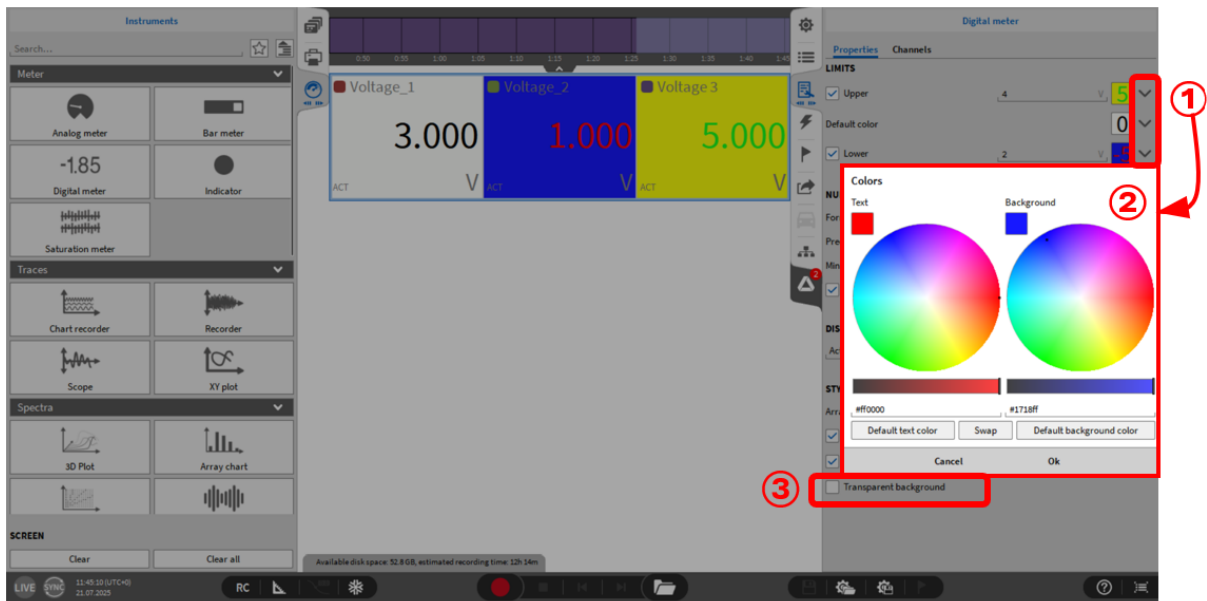

Fig. 8.10: Digital meter – Limits
- Limits: Allows users to color the Digital meters' text based on different limit values. This really helps in identifying signals which have hit a limit when the display is very "busy". This is illustrated in Fig. 8.10. It is possible to define colors for upper and lower limit as well as a default color between the upper and lower limit. First, it is necessary to define a value for the limits (except of the default setting). Afterwards it is possible to define a color for the text and the background by pressing the button ① shown in Fig. 8.10. When pressing one of the buttons in ① for the respective limit a new window appears (② in Fig. 8.10). Here it is possible to define the color for the text itself as well as the color for the background. With the buttons "Default text color" and "Default background color" it is possible to go back to the default settings, with the button "Swap" it is possible to switch the setting of the text and the background. By pressing the "Ok" button the settings will be stored for the selected digital meter.
For the background it is necessary to deactivate the “Transparent Background” option (③ in Fig. 8.10).